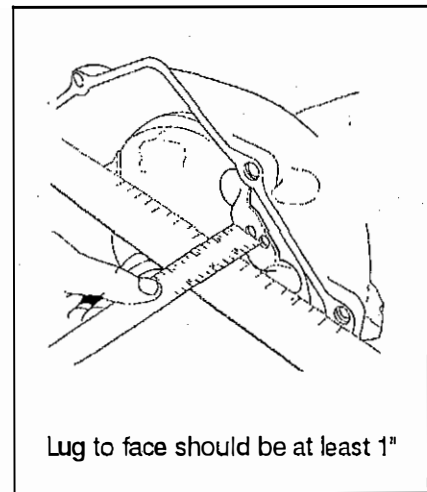

Figure 9
STEP 22. Install the B&M torque converter onto the transmission. Push the converter in while rotating it to engage the input shaft, reaction shaft and pump drive tangs. Place a straight edge across the bellhousing face and measure the distance to the torque converter's drive lug face. The drive lug must be at least 1" inside the bellhousing, see (Fig. 9). A measurement of less than 1" indicates the torque converter is not fully engaged in the transmission. Continue to push in and rotate the converter until you obtain full engagement.